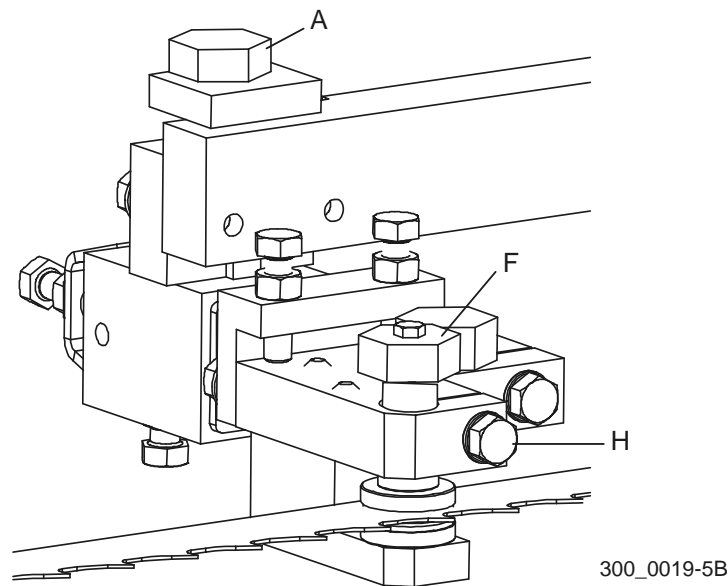

FIG. 5-8
See Figure 5-8. Use bolt (A) to adjust each blade guide assembly down, then back up so there is a slight gap between the bottom guide disks and the blade. Loosen clamp bolt (H) and turn bolt (F) clockwise to adjust the top disk down until the blade is firmly clamped between the guide disks.